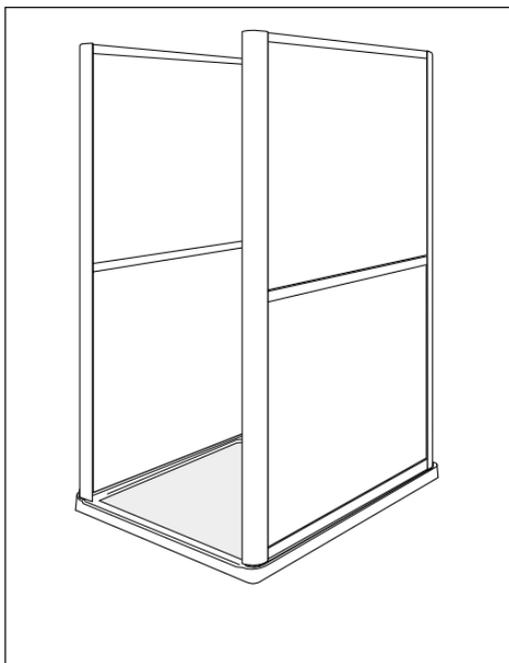

Fig 4.6
7. Fig 4.6. Locate the side panel (8) into the corner post channel (1) and locate last corner post (7). Fix as previous.